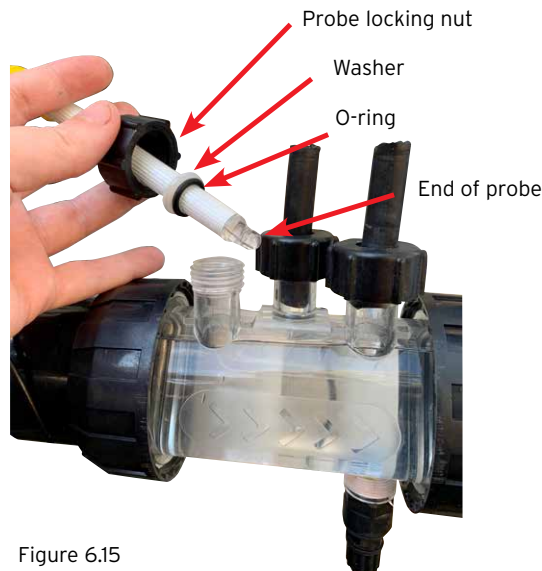

Figure 6.15
- Carefully slide the probe locking nut, then the washer, then the o-ring, onto the probe (refer Figure 6.15)